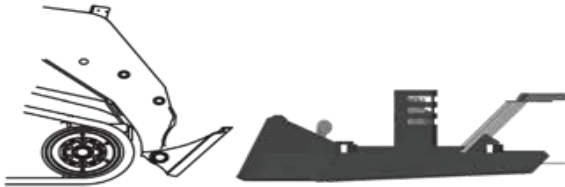

FIGURE 3.2A - BRUSH CUTTER MOUNTING
2. Tilt the skid steer loader Quick Attach Coupler slightly down and drive forward to the rear of the cutter until the top edge of the Quick Attach Coupler connects into the attachment mounting bracket. See figure 3.2a below.